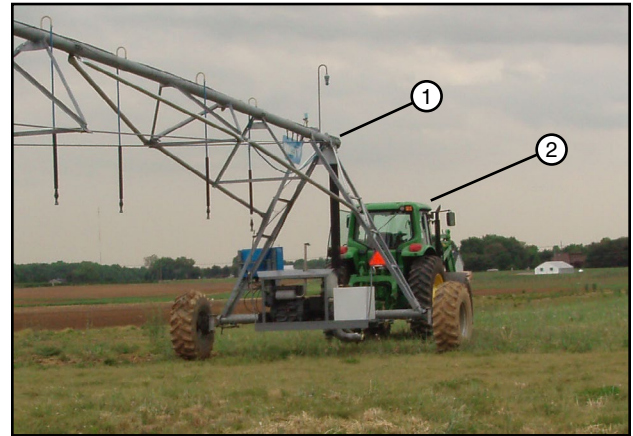

Figure 81-2 1. Single Span Linear 2. Towing Unit
4. Attach the tongue to the towing unit. See figure 81-2.